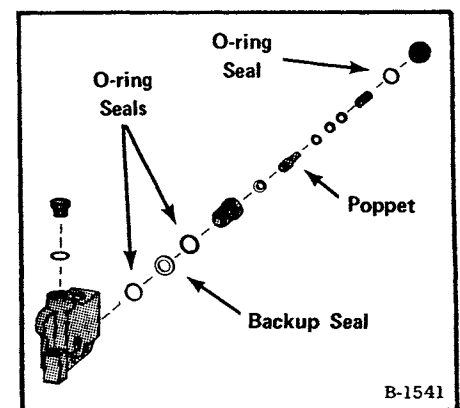

Fig. 2-24 Relief Valve Assembly
**NOTE:** If the release pressure is low, extra shims can be added as shown (See Fig. 2-24). Shims from the 610 relief valve can be used. Each .010 (.254 mm) of shim added will increase the relief pressure approximately 100 PSI (690 kPa).